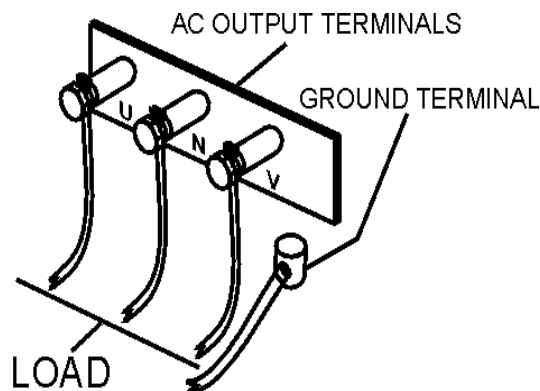

Figure 30. UVW Terminal Lugs (Load)
2. Connect the load to the UVW terminals as shown in Figure 30. These terminals can be found on the output terminal panel, see page 37, Figure 13. To gain access to the output terminals lift the UVW cover. Tighten the terminal nuts securely to prevent load wires from slipping out.